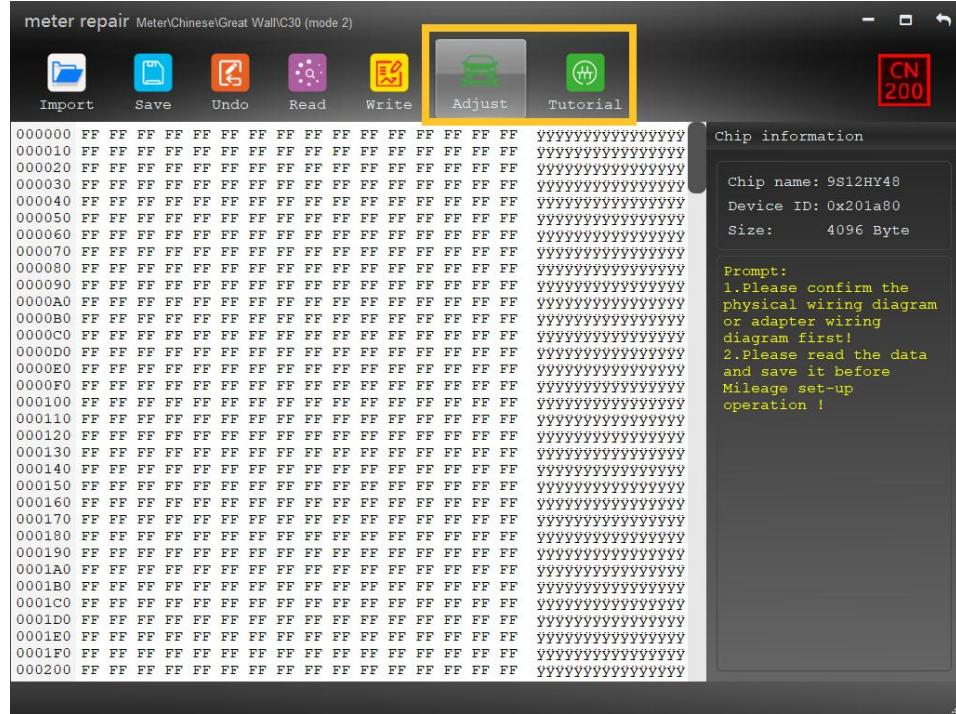

Figure 5-24
- Select the function which you want to operated as shown in Figure 5-24: